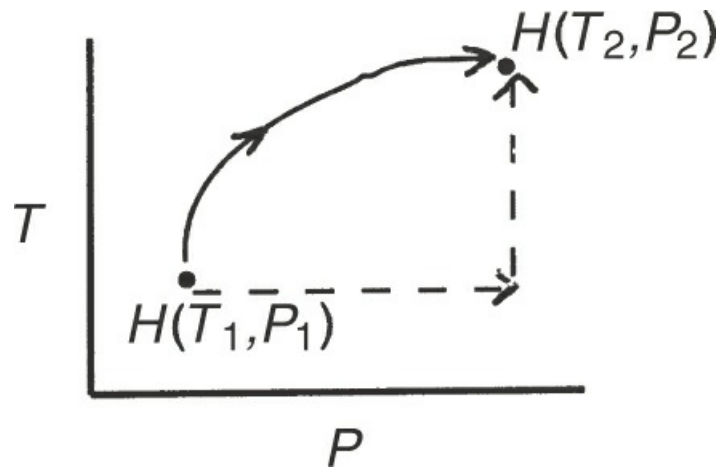

Figure SAT8.2.5P2
2. Will the enthalpy change be greater along the path shown by the solid line or the path shown by the dashed line in Figure SAT8.2.5P2?